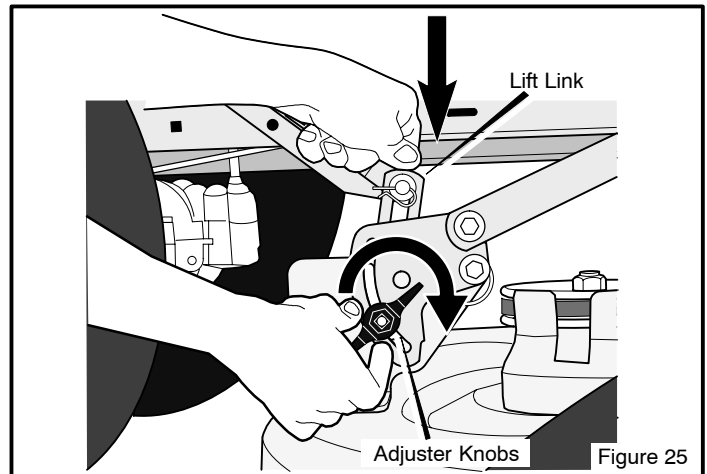

Figure 25
6. Loosen the left and right **adjuster knobs** (Figure 25). Push down on each side of the mower housing. Make sure both sides of the mower housing are setting on a flat surface. Also, make sure the lift links are loose and can easily move up or down.
7. Push down on the **lift links** and tighten the left and right **adjuster knobs** (Figure 25). Make sure the **adjuster knobs** are tight. If necessary, use a wrench to tighten the **adjuster knobs**. For plastic **adjuster knobs**, tighten to a torque of 7 foot pounds (9,5 N-m). For metal **adjuster knobs**, tighten to a torque of 10 foot pounds (13,5 N-m).